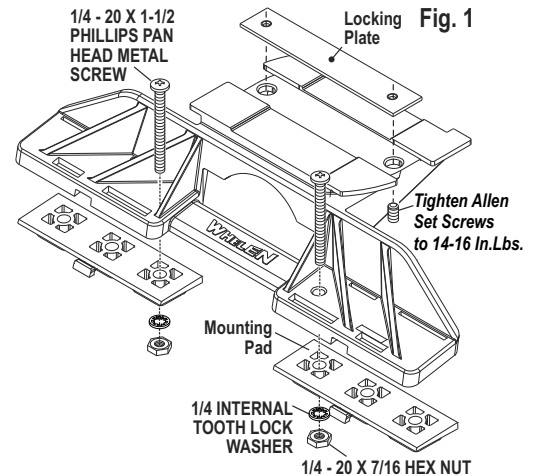

Fig. 2
2. Flip the lightbar upside-down to expose the bottom of the extrusion. Place the mounting foot into the extrusion and rotate the foot so that the top of the foot swings into position under the lips in the extrusion (Figs. 2, 3 & 4). **NOTE: You do not need the anchor plate shown in Figs. 2 - 4. This is used in strap mounting.**